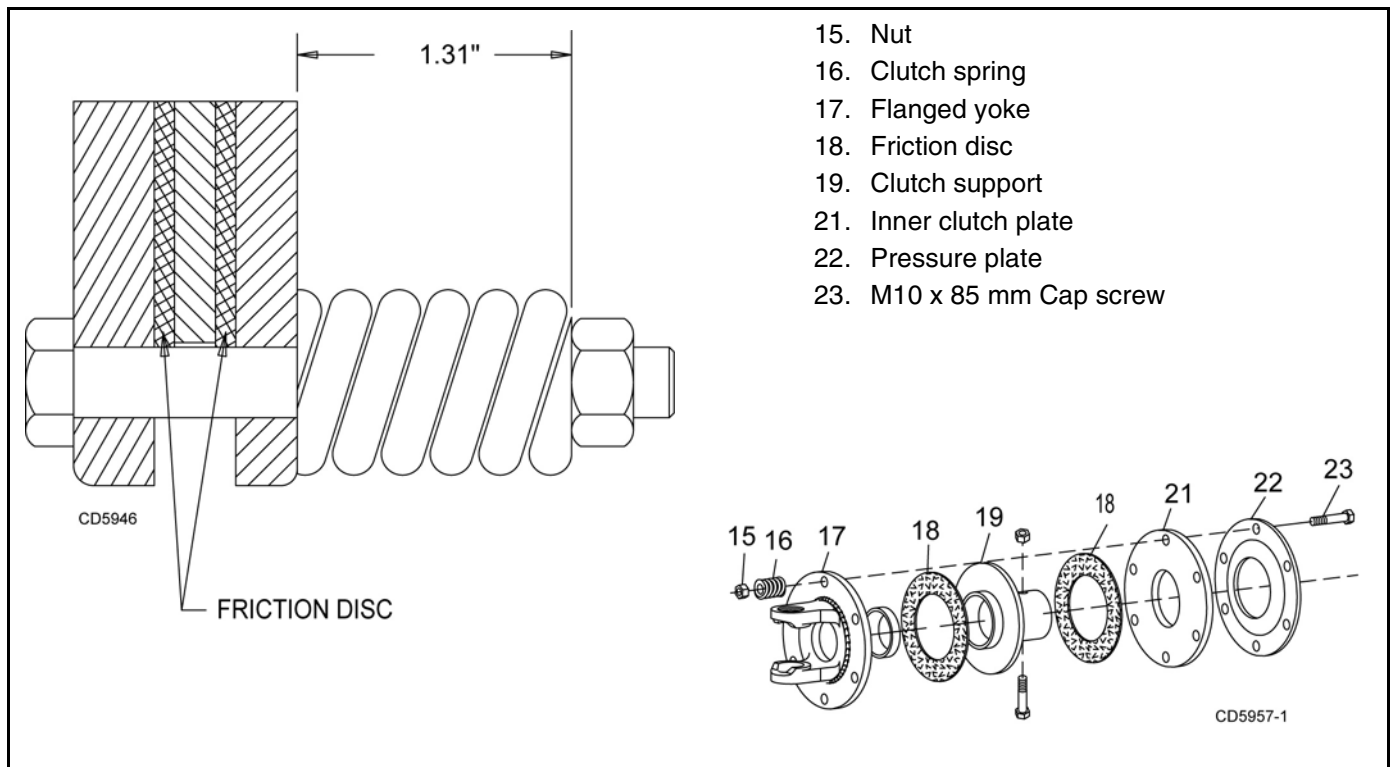

Figure 9. Slip Clutch Assembly
3. Loosen eight 10 mm cap screws (23) to remove all tension from pressure plate (22).
4. Hold clutch support (19) solid and turn shaft to make sure clutch slips.
5. If clutch does not slip freely, disassemble and clean the inner clutch plate faces (21), flange yoke (17), and clutch support (19).
7. Tighten springs (16) until they are compressed to the 1.31 inches shown in Figure 9.
8. If a clutch continues to slip when the springs are compressed to the 1.31 inch dimension, check friction discs (18) for excessive wear. Discs are 1/8" when new. Replace discs after 1/16" wear. Minimum disc thickness is 1/16".